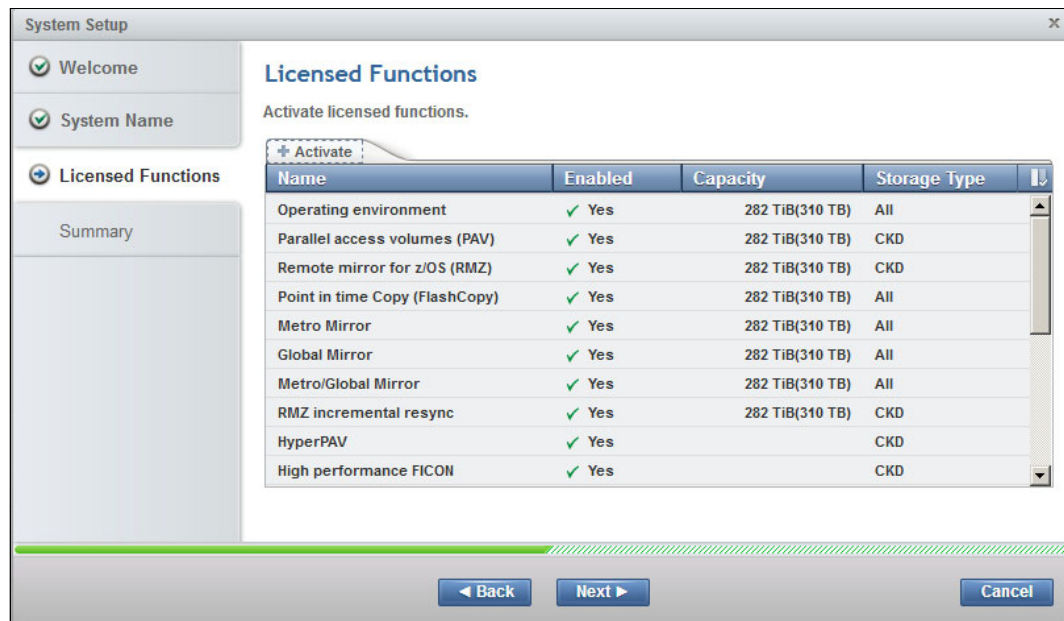

Figure 11-7 System Setup: Licensed Functions Enabled
4. When the license keys are entered click **Activate** to enable the functions as illustrated in Figure 11-7.